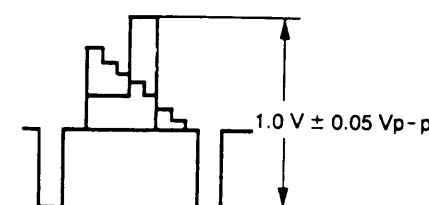

Fig 7.
- 3: By using VR2601 on the COMB FILTER PCB ASS'Y, adjust the amplitude as shown in fig. 7.